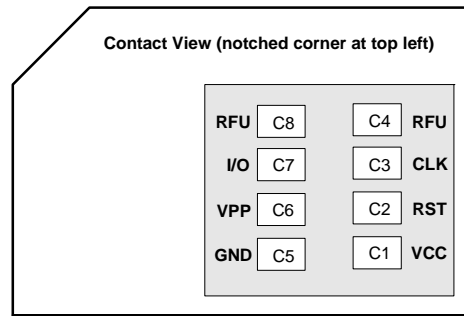

Figure 3-4: SIM Card Contacts (Contact View)
1. See Figure 3-4 on page 34 for SIM card contacts.